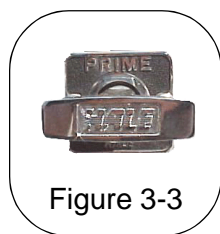

Figure 3-3
2. If the oil appears white or "milky," a water leak is indicated. Remove the drain plug (figure 3-3) and drain the oil into a suitable container. Examine the oil for metal flakes or other contamination. Either of these conditions indicate maintenance is required on the unit.